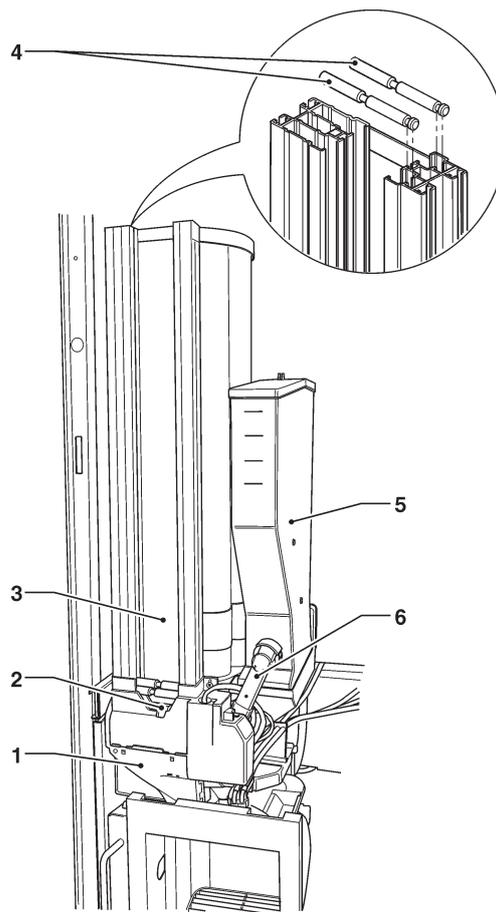

Fig. 9
- remove the external and internal weights for stirrers by extracting them from the top (see fig. 9);